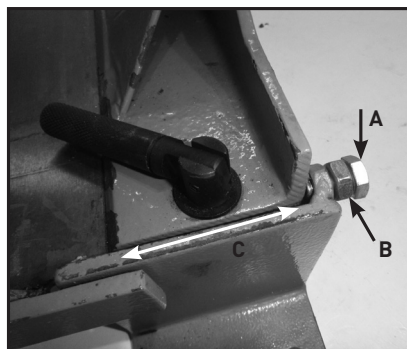

Fig 2
**NOTE:** When using a 1.5mm thickness material, you will need to adjust the Clamp Plate (2) back to approximately 1.5mm. This will allow the folder to produce an accurate bend and avoid any damage to the tool. If the Clamp Plate (2) is not adjusted correctly to accommodate the thickness of the material, you may not be able to bend the material to desired angle and, if forced, could cause damage to the bender.
2. Ensure the lock nut (Fig 2B) on the Clamp Plate Adjustment Bolt (2) is tight so the the Clamp Plate Adjustment Bolt (2) does NOT move (Fig 2).